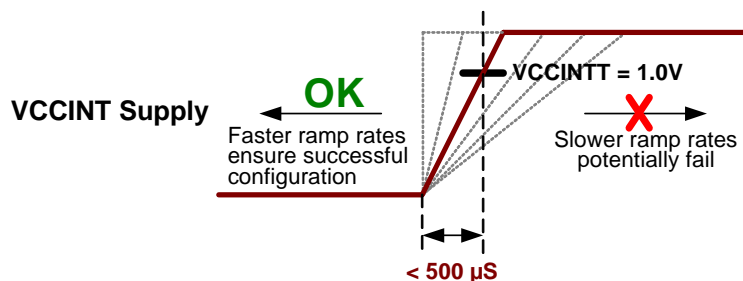

Figure 4: Use Faster VCCINT Ramp Rate if VCCINT is Last Supply
**OPTION 3:** In a system that requires that the VCCINT supply is last in the power-up sequence, ensure that it ramps to its maximum POR threshold voltage ( $V_{CCINTT} = 1.0V$ ) in less than  $500 \mu S$ , as shown in Figure 4.